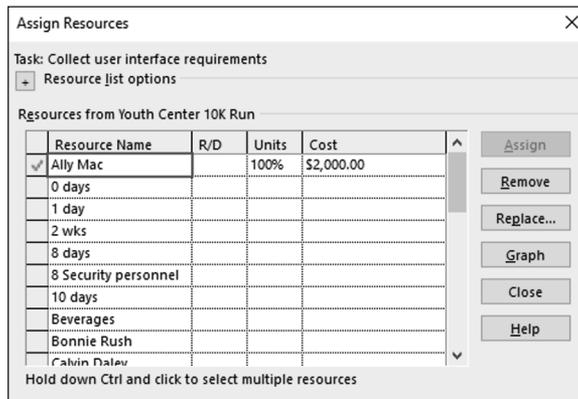

FIGURE 17-9: Modifying the resource cost.
- » **Use less-expensive materials:** Change the unit price of material resources you've created in Resource Sheet view. Or shop around for better pricing on items that are set up as cost resources, and enter the lower prices of tasks to which you've assigned those resources by using the Cost column in the Assign Resources dialog box, as shown in Figure 17-9. To get to the Assign Resources dialog box, right-click a task or a resource. From the right-click drop-down menu, choose Assign Resources.